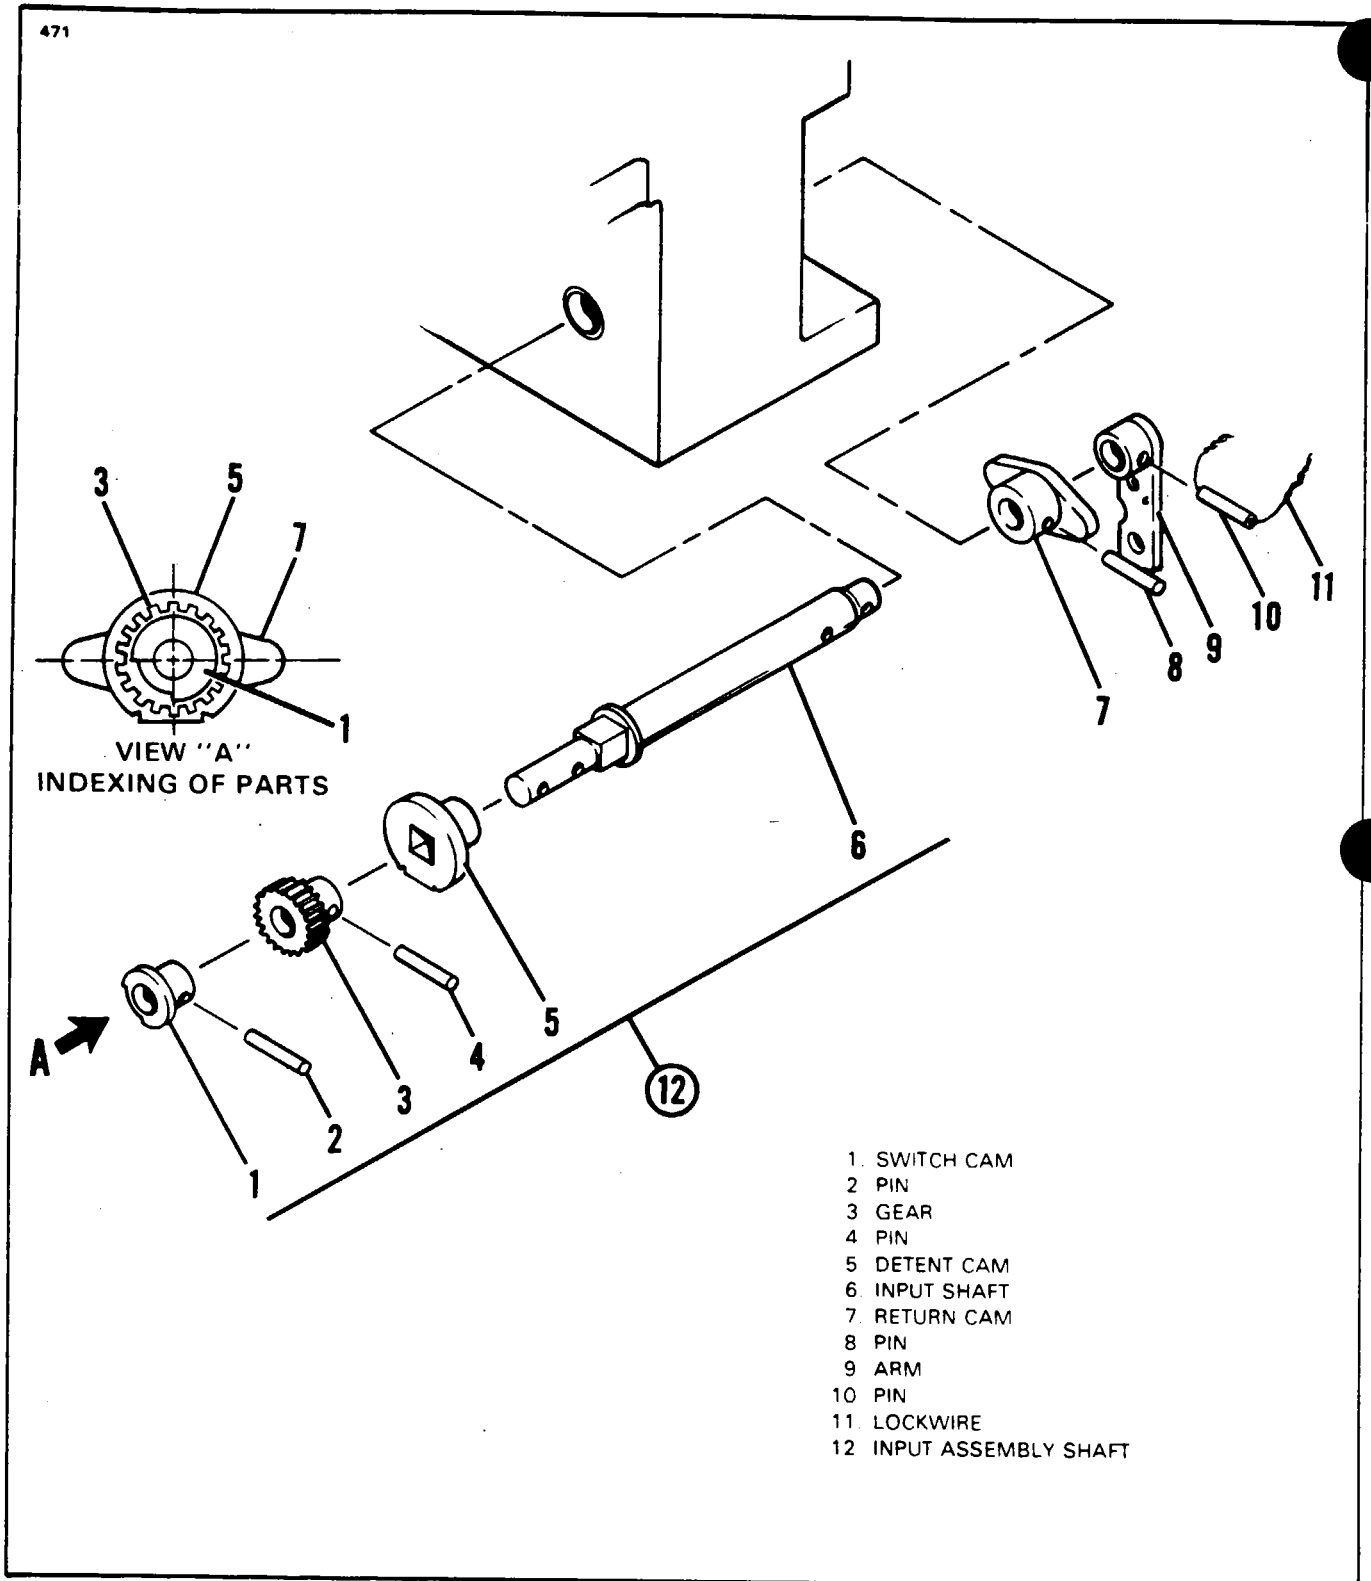

Figure 29-8. Power Pack Handle Release Mechanism - Wiebel
POWER PACK HANDLE-RELEASE MECHANISM. (Refer to Figure 29-8.)
1. If the switch cam, the gear and the detent cam were removed from the input shaft, then the parts must be assembled and indexed as shown in Figure 29-8. View "A."
5. Install the Power Pack control arm on the end of the shaft with the arm pointing down. Align the holes between the shaft and the arm assembly and install the roll pin. Install .041 safety wire through the roll pin and around half of the arm. Pull the twisted end of the safety wire around the other half of the arm assembly. (Refer to Figures 29-8 and 29-9.)